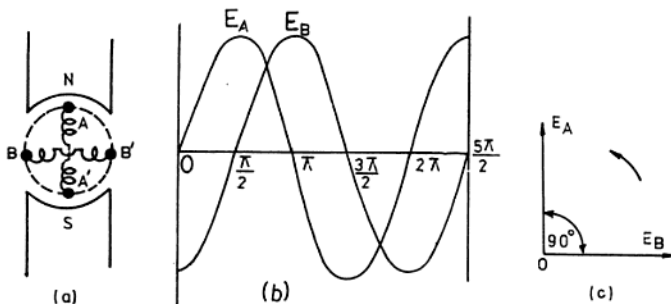

Fig. 12.1: Generation of two-phase supply
**Two-Phase System** In this system, two electrically insulated windings (or coils) are used in the armature which are  $90^\circ$  electrical apart and their ends are brought to the slip rings. If the windings are rotated with a constant angular velocity in a uniform magnetic field, the emf's generated in the windings will have a phase difference of  $90^\circ$ . This is shown graphically and vectorially in Fig. 12.1 (b), (c) respectively. As the two windings or coils are wound on the same armature and have the same number of turns, the emf generated in the two coils have the same maximum value, frequency and wavelength.